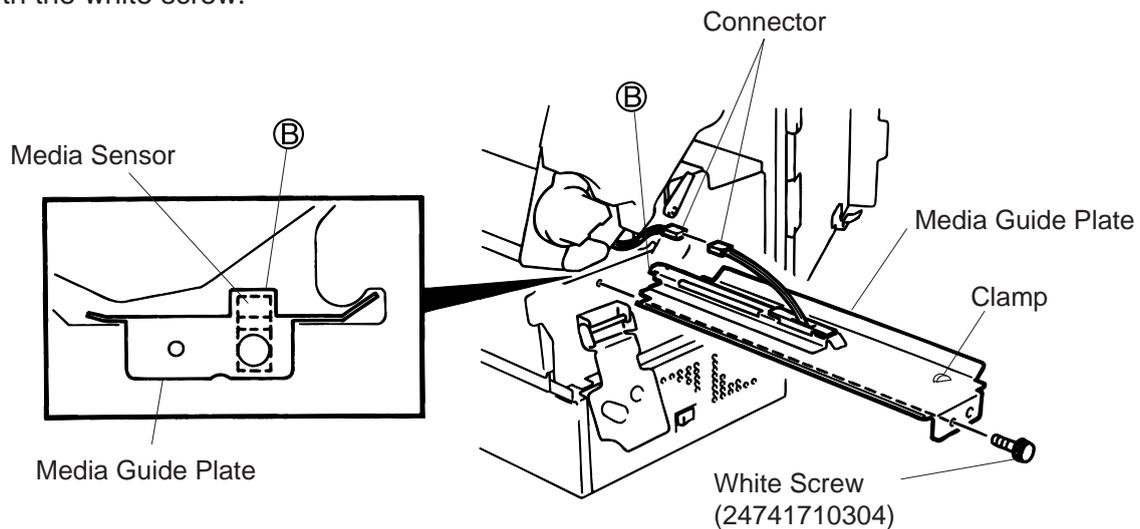

Fig. 11-5
3. Turn the head lever to position ③, “ then release the head lock plate.
4. Remove the white screw, unclamp and disconnect the connector of the media guide plate, and then detach the media guide plate. (See Fig. 11-5.)
8. Place the portion ④ of the media guide plate on the media sensor. Secure the media guide plate with the white screw.